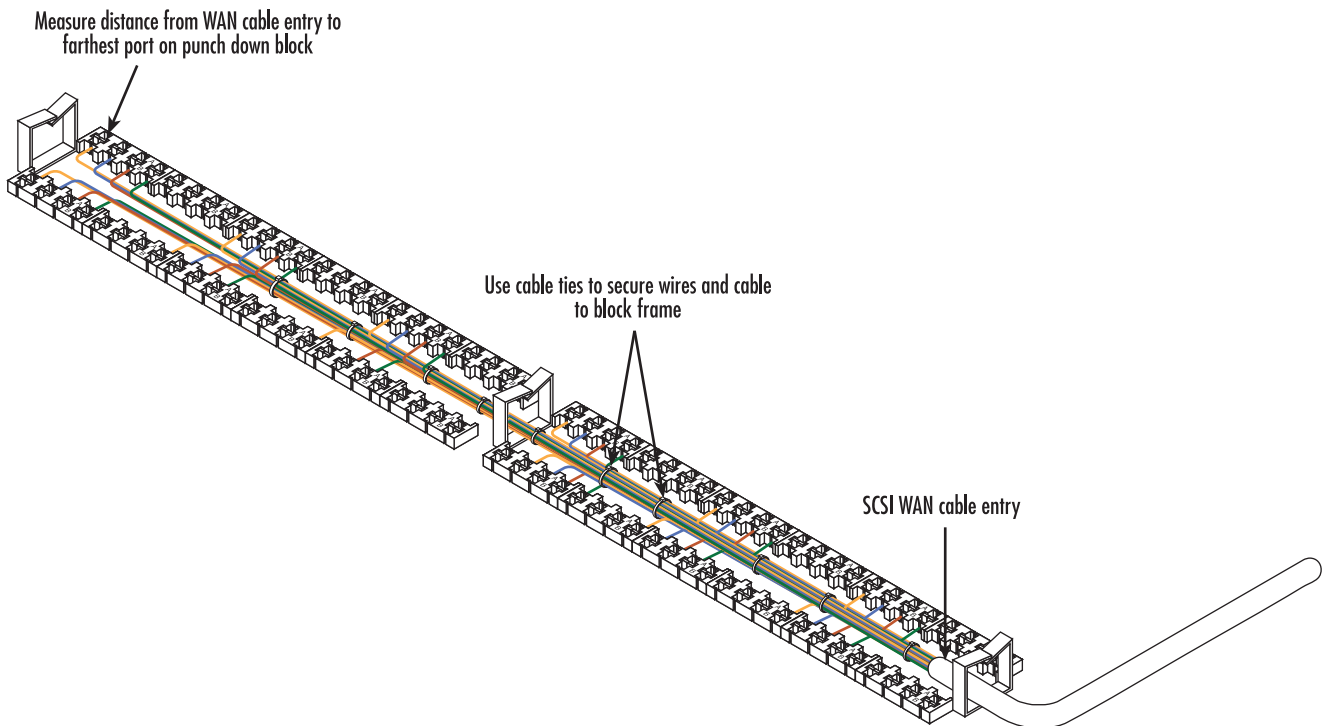

Figure 14. Punch-down block wiring
1. Measure the distance between SCSI cable entry point on the punch-down block frame and the farthest port to be wired on the punch-down block (see figure 14).